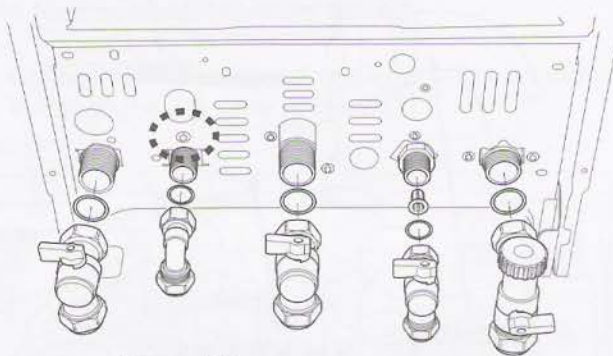

Figure 57
- Remove the screw securing the left part of the hydroblock to the combination boiler (Figure 57).